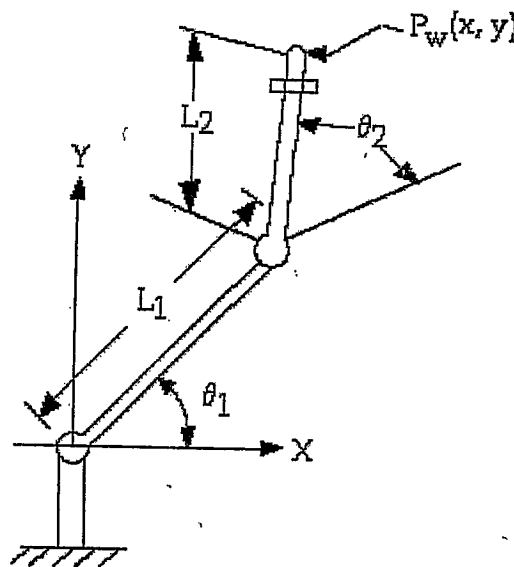

Figure 3
3. Consider the forward transformation of the two-joint manipulator shown in figure 3. Given that the length of joint 1, $L_1=12\text{in}$, the length of joint 2, $L_2=10\text{in}$., the angle $\theta_1=30^\circ$ and the angle $\theta_2=45^\circ$, compute the coordinate position (x and y coordinates) for the end-of-the-arm P_w .